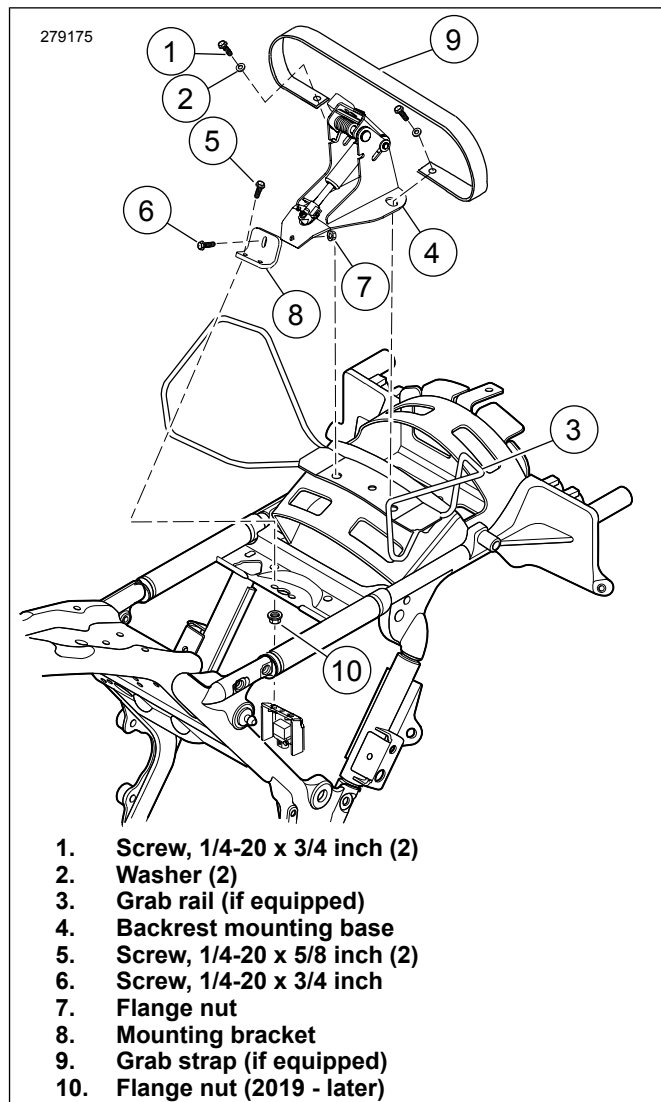

Figure 3. Install Backrest Mounting Base
3. See Figure 3. Install mounting bracket (8) to mounting base (4) with screw (6) and flange nut (7). Tighten screw.
4. See Figure 3. Install front mounting bracket (8).